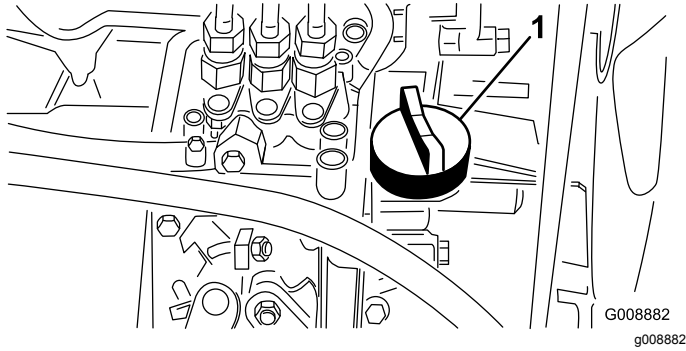

Figure 37
- If the oil level is low, remove the oil-fill cap (Figure 37) and gradually add small quantities of oil, checking the level frequently, until the level reaches the Full mark on the dipstick.